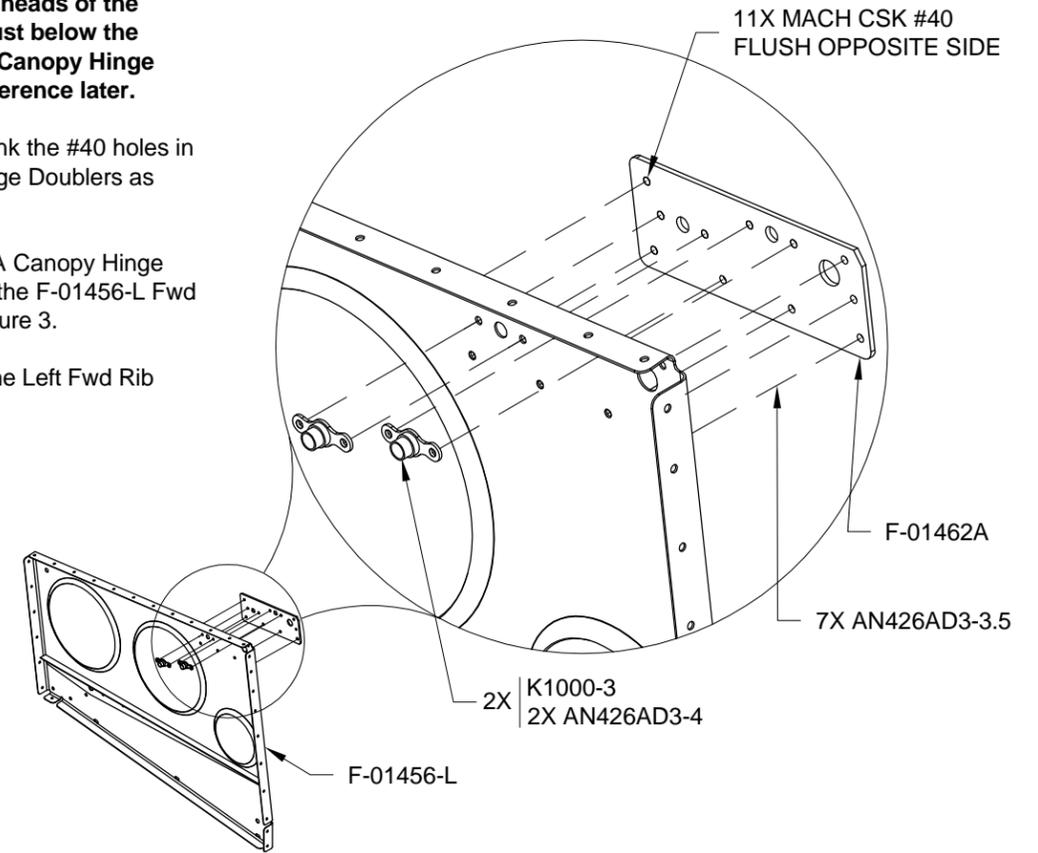

FIGURE 3: FWD RIB ASSEMBLY
Step 4: Machine countersink the #40 holes in the F-01462A Canopy Hinge Doublers as shown in Figure 3.
Step 5: Rivet the F-01462A Canopy Hinge Doublers and nutplates to the F-01456-L Fwd Fuse Ribs as shown in Figure 3.